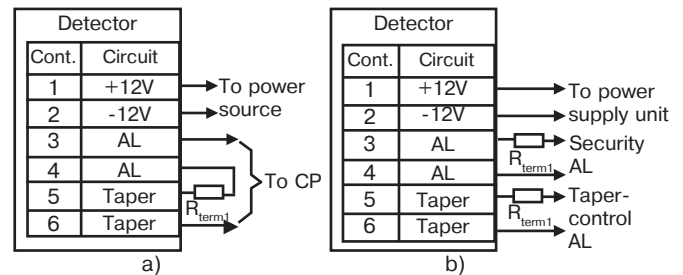

Figure 3
- Drill the holes in the base (See Figure 3) for the Detector wiring and fastening the base.